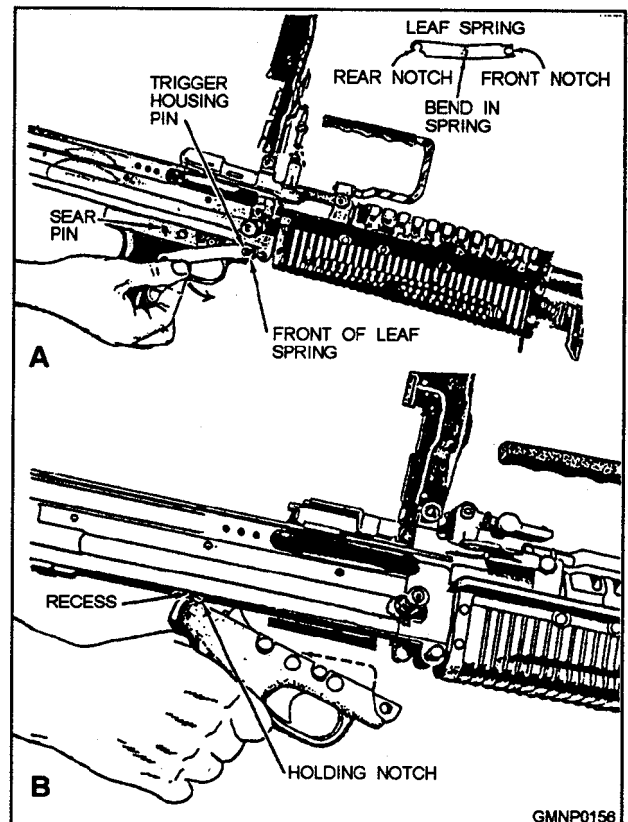

Figure 3-82.—Removing the trigger mechanism grip group.
REMOVING THE TRIGGER MECHANISM GROUP.— The trigger mechanism grip group consists of the trigger mechanism grip assembly (trigger housing, sear, sear pin, sear plunger, sear plunger spring, trigger pin, and trigger), the trigger housing pin (interchangeable with the sear pin), and the leaf spring. To remove the group, press in on the front of the leaf spring and rotate the front end down to clear it from the trigger housing pin, as shown in figure 3-82, view A.
the front of the housing down, and remove it (fig. 3-82, view B).
2. Engage the holding notch of the trigger housing in its recess in the bottom of the receiver (fig. 3-82, view B). Rotate the front of the trigger housing up and align the holes of the trigger housing with the mounting bracket on the receiver. Insert the trigger housing pin from the left. Engage the rear of the leaf spring with the sear pin (fig. 3-82, view A). Make sure the leaf spring is positioned so that the bent portion is pressed against the side of the trigger housing. Rotate the front of the leaf spring up and engage it with the trigger housing pin.